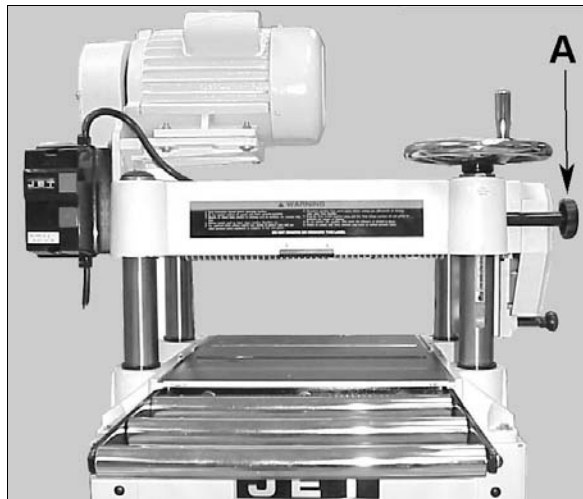

Figure 35
The gearbox is located on the right side of the planer directly behind the *table lock knob* (A, Fig. 35). The gearbox transfers power from the belt-driven cutterhead to the power feed rollers. A two-speed transmission, controlled by a push/pull lever (D), moves the stock through the planer at either 16 or 20 feet-per minute. The push/pull lever is set *while the machine is running*.
Before attempting to adjust table height, loosen the two *table lock knobs*, one on the right front of the head casting assembly (A, Fig. 35) and the other on the left rear.